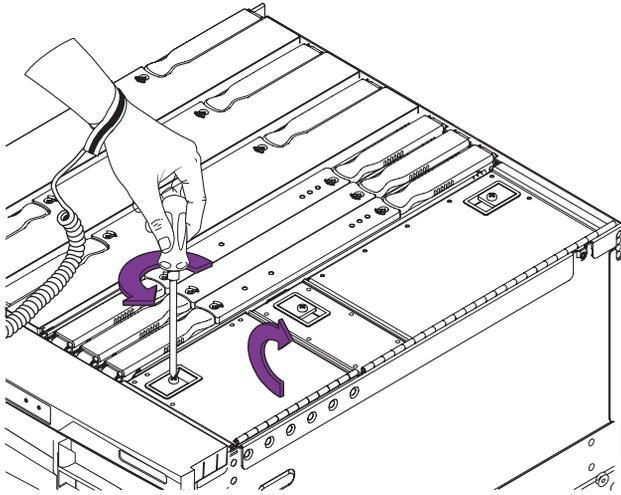
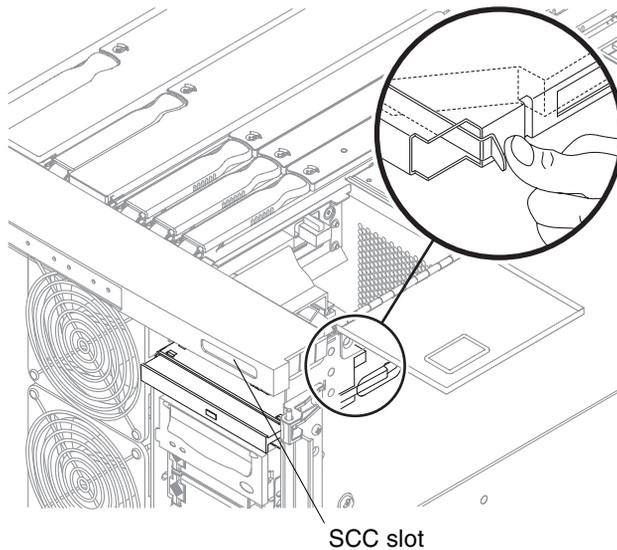

FIGURE 5-16 Opening the Media Bay Access Door—System Top View
FIGURE 5-20 System Configuration Card Slot Location
4. **Open the media bay access door at the top of the system. Loosen the latch securing screw. Lift the latch and raise the cover (FIGURE 5-16).**
2. Open the media bay access door at the top of the system(FIGURE 5-16).
To remove or replace the SCC reader (FIGURE 5-20) you must open the media bay access door at the top of the system (FIGURE 5-16).
This card is the size of a credit card, and is located above the CD-ROM drive (FIGURE 5-20).
8. **Open the media bay access door. Loosen the latch securing screw. Release the latch and lift the cover** (FIGURE 5-16).
6. Open the media bay access door. Loosening the latch securing screw. Release the latch and lift the cover (FIGURE 5-16).